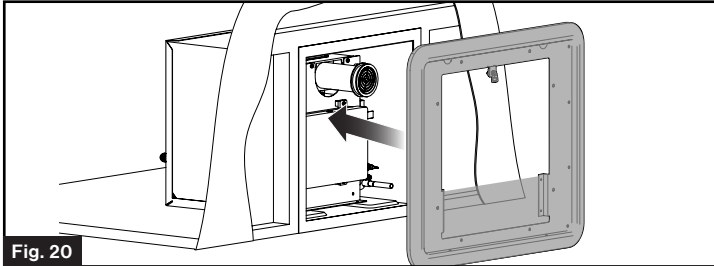

Fig. 20
3. Position the door frame into the water heater housing and press firmly against the sidewall. (Fig. 20)